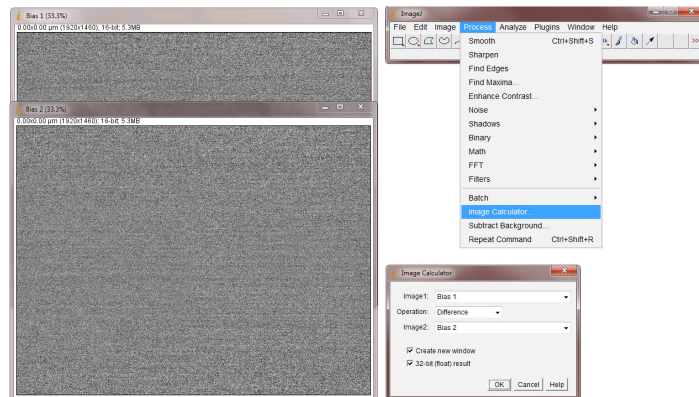

Figure 12
2. In ImageJ, calculate the difference between the two images by selecting Image Calculator from the Analyze menu. Select the two frames and Difference, you will need to float the result. Press OK to generate the diff image (Figure 12).